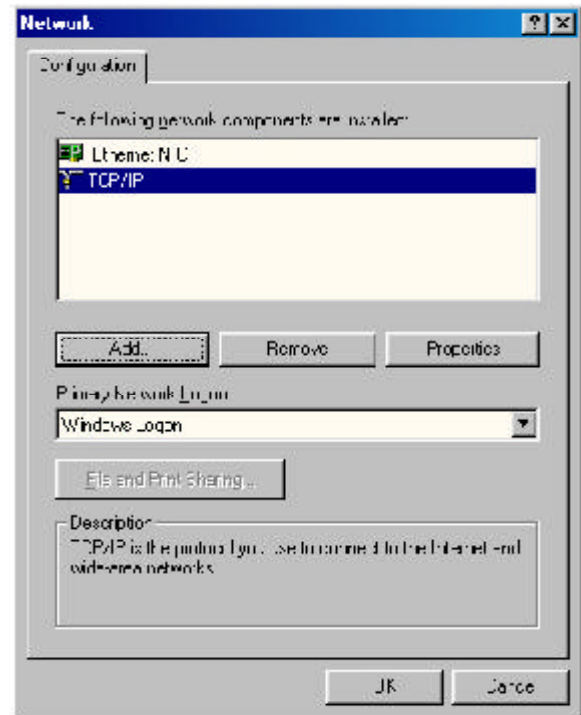

Fig. 2.3
Step 2 Select **TCP/IP** and click **Properties**. See Fig. 2.3